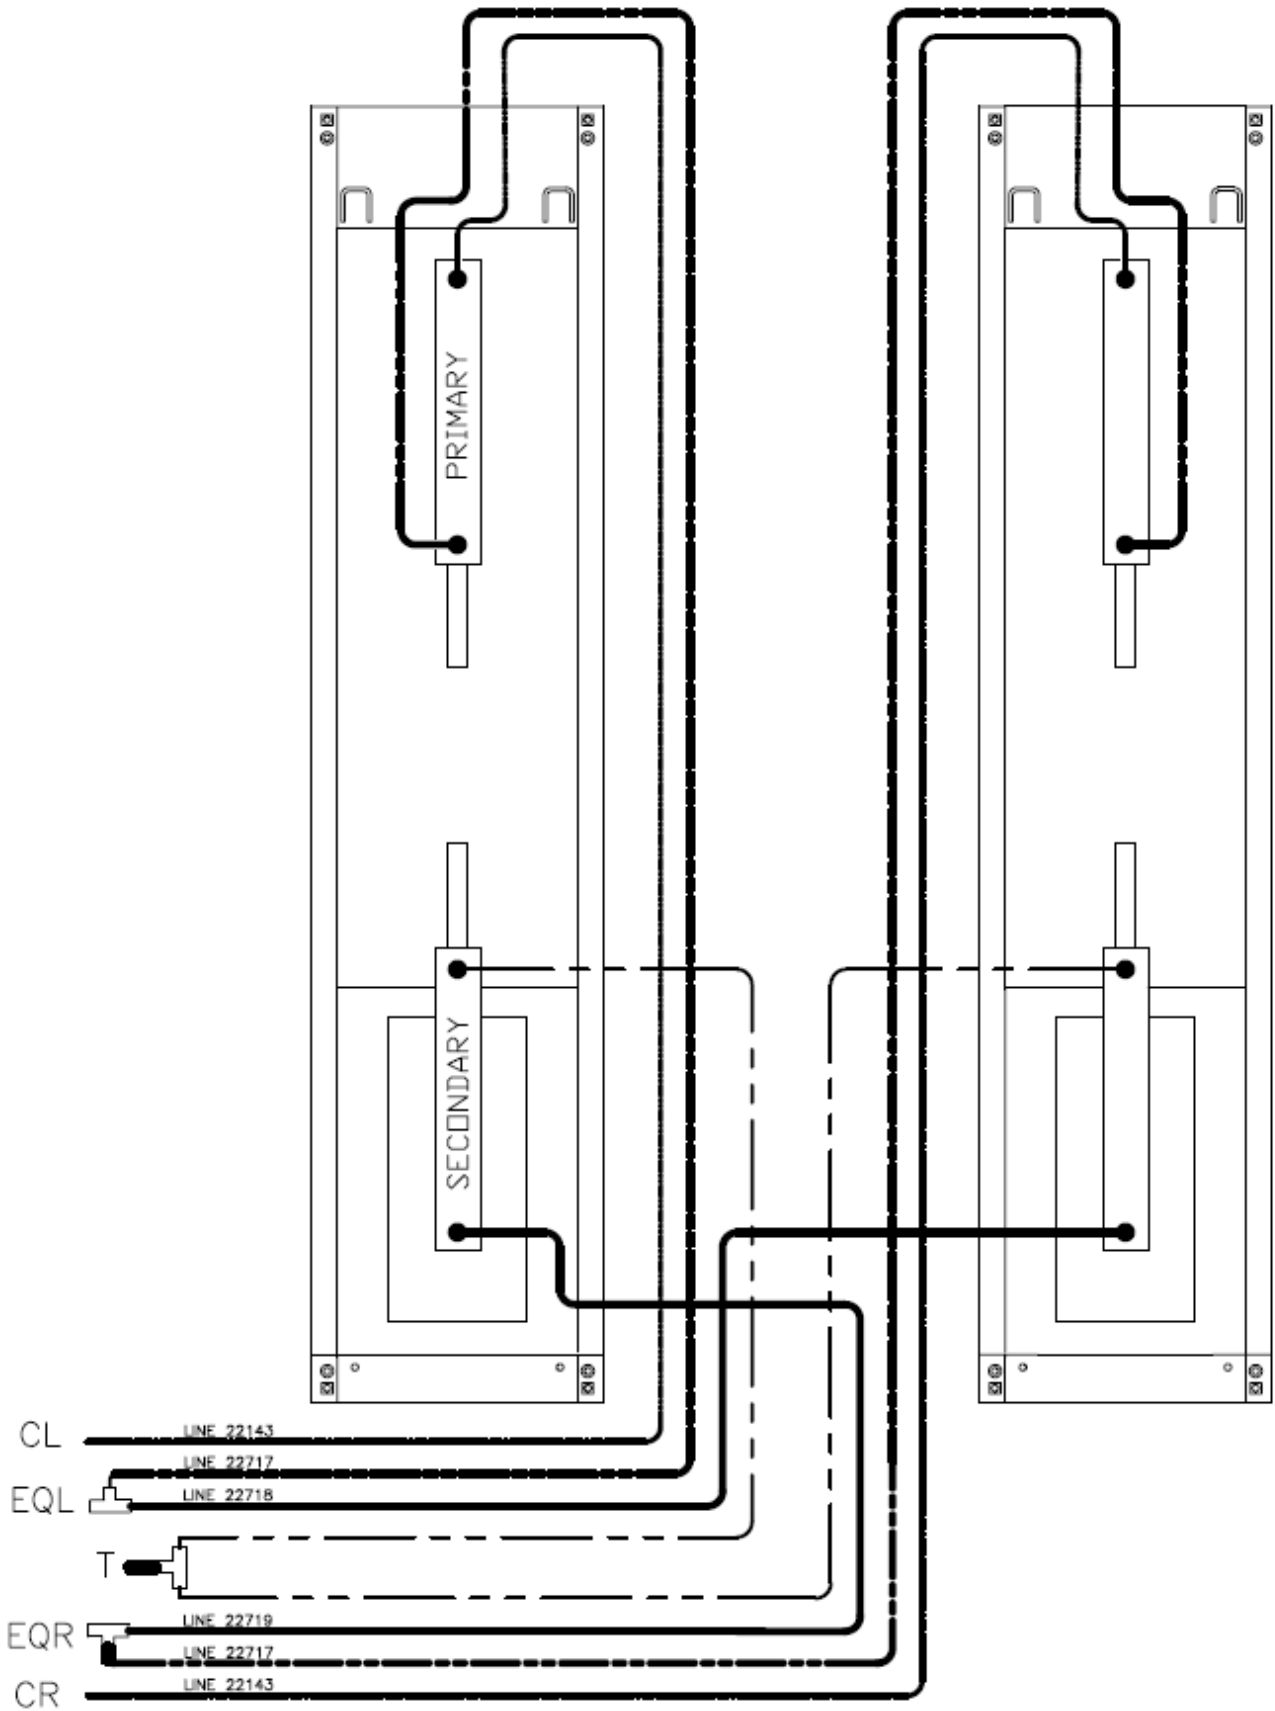

Figure 7 - Hydraulic Connections
4. The 3/8” polytube return lines in the baseframes should be joined inside the console using a 3/8” “T” connector (**Figure 6**) from the hardware kit. To connect the “T” connector to the tank, cut off approximately 6” to 8” (152.4mm to 203.2mm) from either polytube supplied. Next, connect the other end of the tube to the pump connection marked T (Tank) (**Figure 7**)